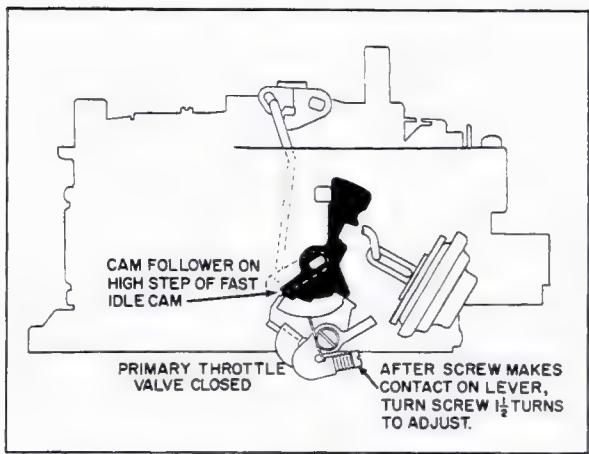

Fig. 6-77 Fast Idle Adjustment
80. Bench Fast Idle Adjustment (Fig. 6-77)
- With primary throttle valves completely closed and cam follower over high step of fast idle cam, turn fast idle screw in one and one-half turns after screw makes contact on lever, Fig. 6-77.